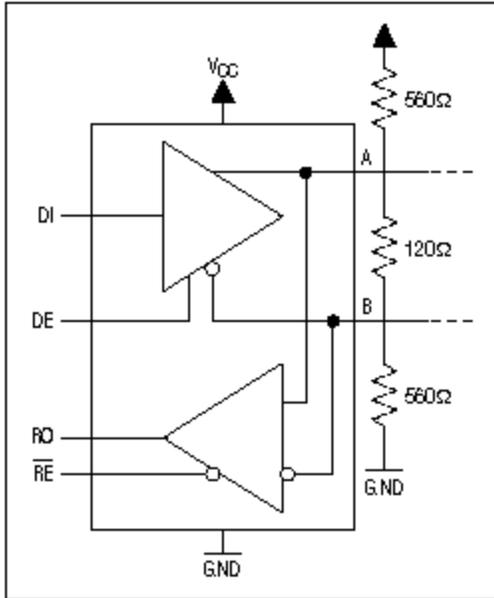

Figure 1. Three external resistors form a termination and failsafe biasing network for this RS-485 transceiver.
For RS-485 receiver inputs between -200mV and +200mV, the output is undefined. That is, if the differential voltage on the RS-485 side of a half-duplex configuration is 0V, and no master transceiver is driving the line (or a connection has come loose), then a logic "high" output is as probable as a logic "low." To ensure a defined output under these conditions, most of today's RS-485 transceivers require failsafe bias resistors: a pullup resistor on one line (A) and a pulldown on the other line (B), as shown in **Figure 1**. Historically, the failsafe bias resistors on most schematics were labeled 560 Ω , but to reduce power loss (when terminating one end only) this value can be increased to approximately 1.1k Ω . Some designers terminate both ends with resistor values between 1.1k Ω and 2.2k Ω . The trade-off is noise immunity versus current draw.